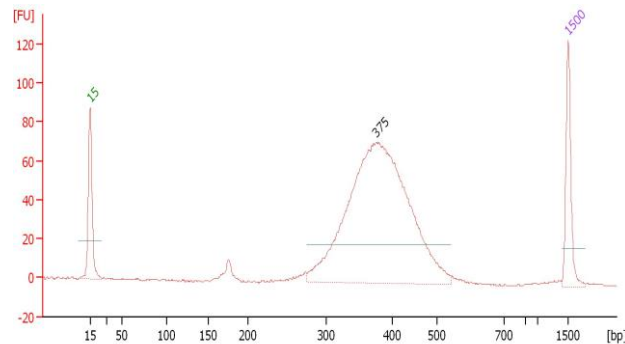

Figure 1 Example of a library QC.
Note: DNA damage in FFPE tissue samples may decrease the size of DNA fragment to be smaller than 380 bp (e.g. 330 bp, which is much larger than 160 bp). The fragment of 160 bp (shown in Figure 1) will not affect the following steps).
- *The constructed DNA library should be more than 0.5 μ g. The main size of fragment DNA should be 380 bp for FFPE tissue sample or 330 bp for plasma sample. DNA damage in FFPE tissue samples may decrease the size of DNA fragment to be smaller than 380 bp (e.g. 330 bp, which is much larger than 160 bp). The fragment of 160 bp (shown in Figure 1) will not affect the following steps). If it's not qualified, repeat the library construction.*